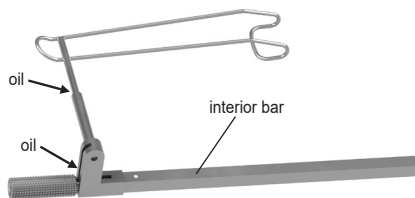
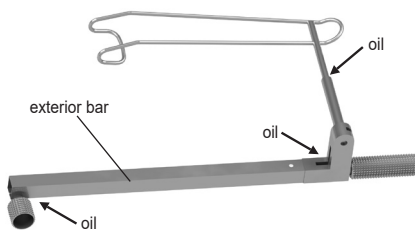

Fig. 6
Fig. 7
- Apply the instrument oil selectively on the area that needs it (fig. 6 and fig. 7).